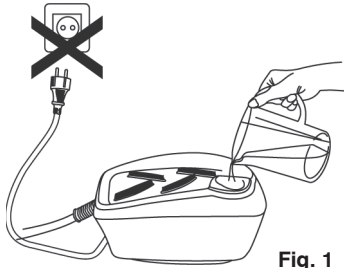

Fig. 1
- The appliance must not be connected to the mains while the boiler is being filled (Fig. 1).
- Unscrew the cap (F) and fill the boiler with water, using a jug (Fig. 1) (if you fill it with hot water, the appliance will be ready for use sooner).
- Turn off the boiler (B) and iron (A) switches.
- Carefully unscrew the cap (F) to let the residual steam out of the boiler.
- Wait for some minutes and carefully pour 1l of water into the boiler using a jug (Fig. 1).
- Carefully close the cap (F) again, screwing it to the end.